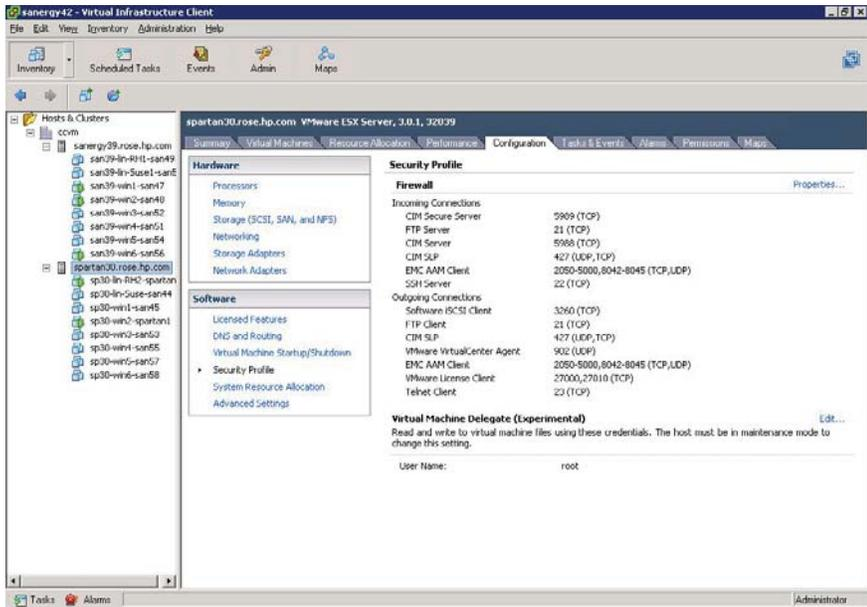

Figure 38 Security profile information
- d. Click **OK** (Figure 38).